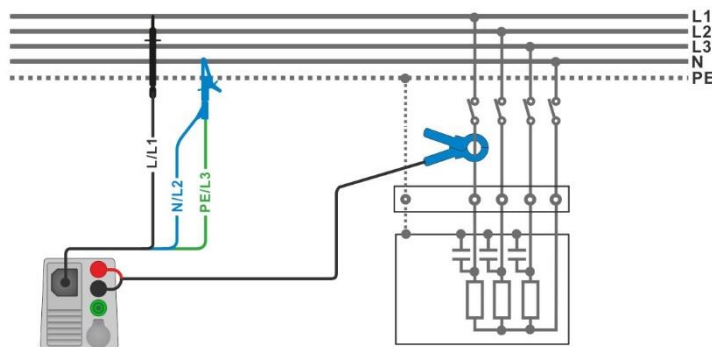

Figure 7.100: Power measurement
- › Connect the 3-wire test lead and current clamp to the item to be tested (see *Figure 7.100*).